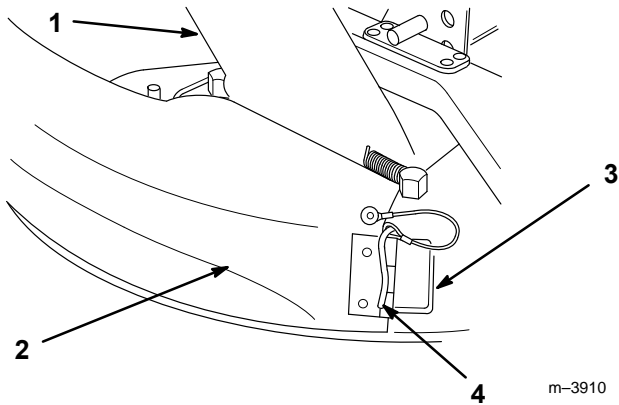

Figure 5
1. Slide chute assembly under deflector and into locking position with mating part of hinge lock. Insert locking pin (Fig. 5).